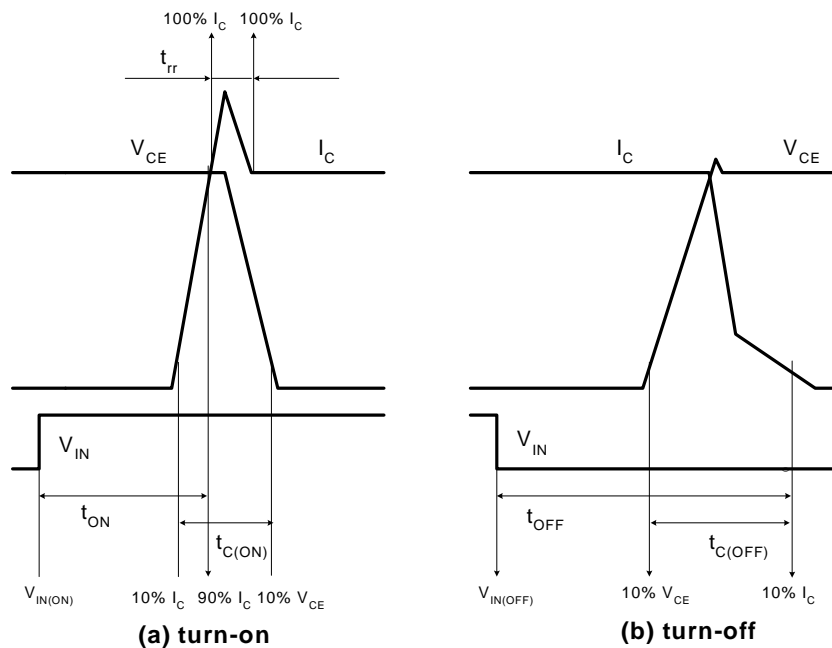

Figure 4. Switching Time Definition
- t_{ON} and t_{OFF} include the propagation delay time of the internal drive IC. $t_{C(ON)}$ and $t_{C(OFF)}$ are the switching time of IGBT itself under the given gate driving condition internally. For the detailed information, please see Figure 4.